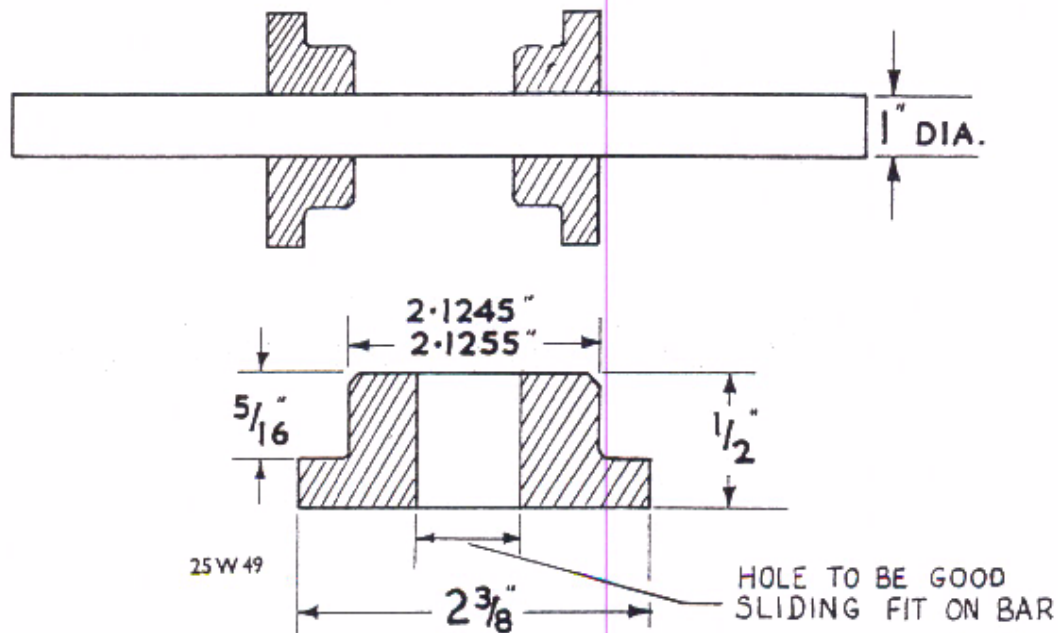

Fig. D2. Steering head mandrel
- One mandrel and two blocks, as in Fig. D2.